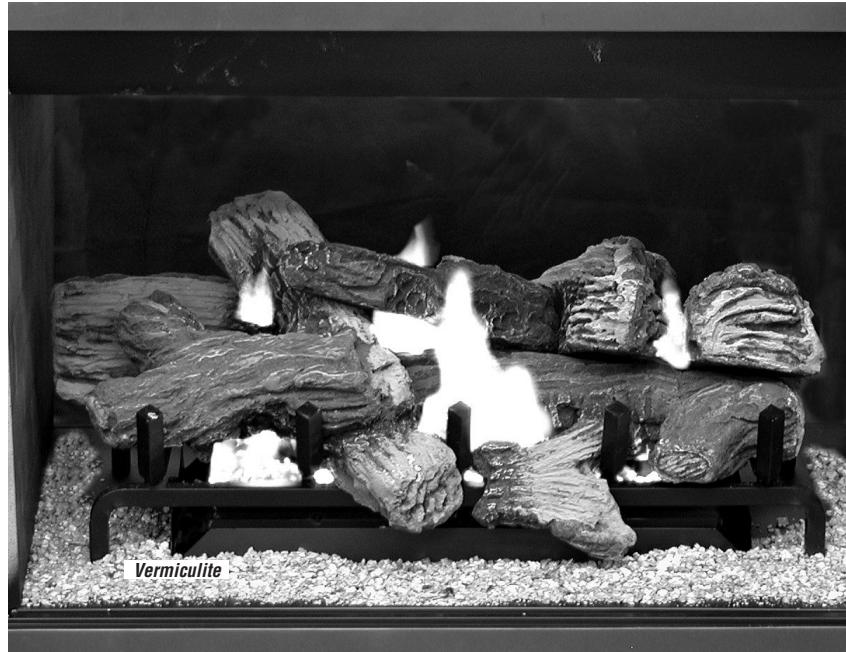

Figure 77 - Burner Flame Appearance
1. Refer to *Figure 77, page 53* for proper flame appearance. To adjust the flame, rotate the adjustment rod toward the back or toward the front of the fireplace (rod located in the lower control area). Position the air shutter to the factory setting as shown in the table in *Figure 78*.